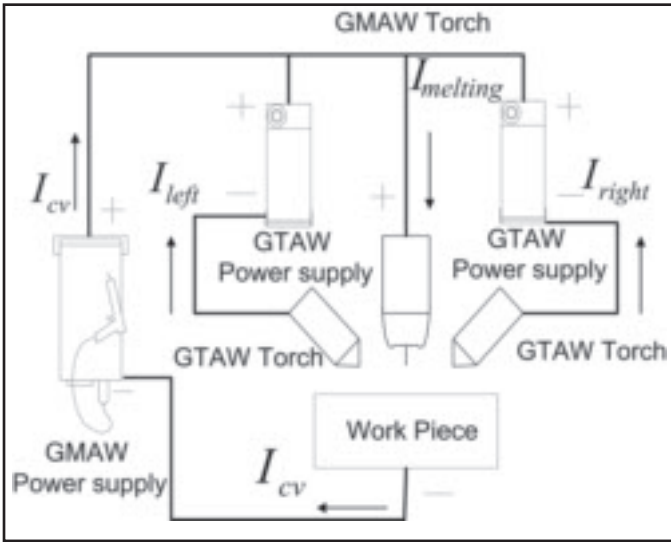

Fig. 1 — Illustration of DB-GMAW.
A dual-bypass GMAW process shown in Fig. 1 was at the University of Kentucky. As illustrated, the system includes a constant voltage (CV) power supply to provide the base metal current I_{cv} , and two constant current (CC) power supplies to provide the left and right bypass currents: I_{left} and I_{right} . The positive terminals of all three power supplies are connected together to the GMAW gun (which provide the bypass tungsten electrodes), respectively. In this way, the total melting current that melts the wire is the sum of currents, i.e., $I = I_{basemetal} + I_{left} + I_{right}$. Thus, the base metal current that controls the base metal heat input and arc pressure imposed on the base metal can be much less than the total melting current. It has been verified by experiments that the total melting current is determined by the preset wire feed speed (WFS) and the welding voltage